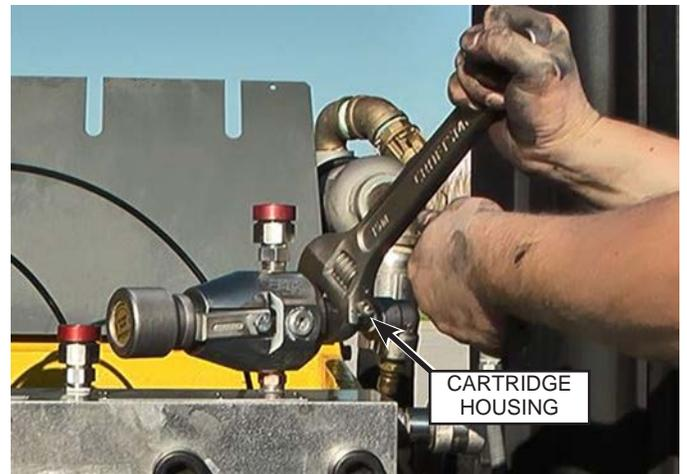

Fig. 111: Cartridge Housing Removal
2. Using an adjustable wrench, remove the cartridge housing (Fig. 111) from the valve.